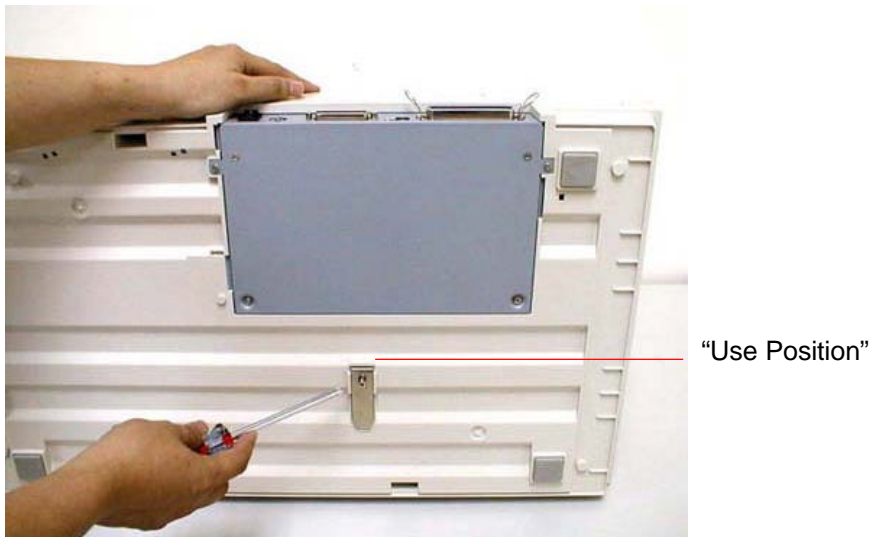

Figure 2-2 Securing the Shipping Bracket
- iii). Put the shipping bracket into the use position with the short side extending into the Scanner base and secure it with the screw.(See Figure 2-2)